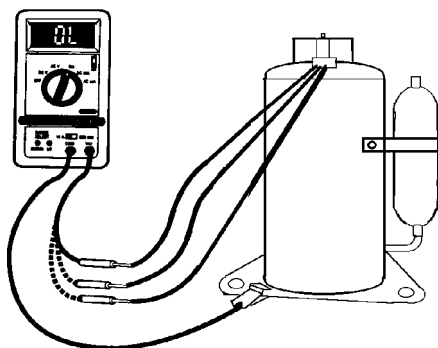

FIGURE 36 — GROUNDED WINDINGS TEST
5. Next, test the resistance individually of each wire to the shell of the compressor. The paint on the compressor can prevent good contact between the probe and the metal. The paint should be removed from a small section of the shell of the compressor to ensure good contact by the meter probe. The volt-ohmmeter should be set to at least the 100X ohm level. The measured resistance between each wire and ground should be infinite or O.L. on the readout. If there is measurable resistance one of the windings is likely shorted to ground. See Figure 36.